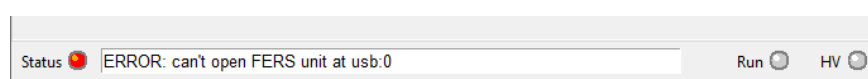

Fig. 11.17: Message displayed in the Janus 5203 application in case of a not working USB connection.
**Note:** In case the connection is not established, an error message will be displayed in the status bar in the bottom part of the Janus 5203 GUI as in Fig. 11.17. In this case, the user is kindly suggested to re-check all the instructions in Sec. 11.2.